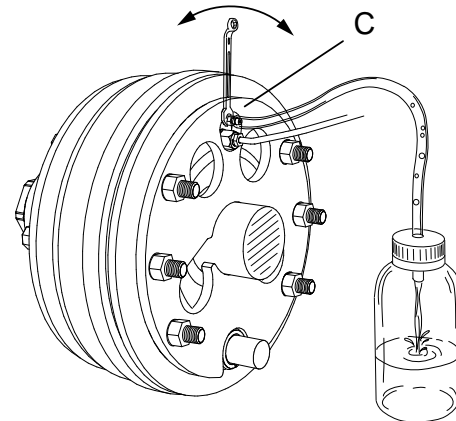

Figure 12.24 Air-bleeding nipple
- Use the nipple, see “*Figure 12.24 Air-bleeding nipple*” (C) to bleed the system. First bleed one wheel and then the second before continuing to bleed the left/ right wheel until all air has been forced out of the lines. Connect a transparent hose to the nipple and allow surplus brake fluid to run into a suitable container. Close the nipple when no more air bubbles can be seen in the hose.